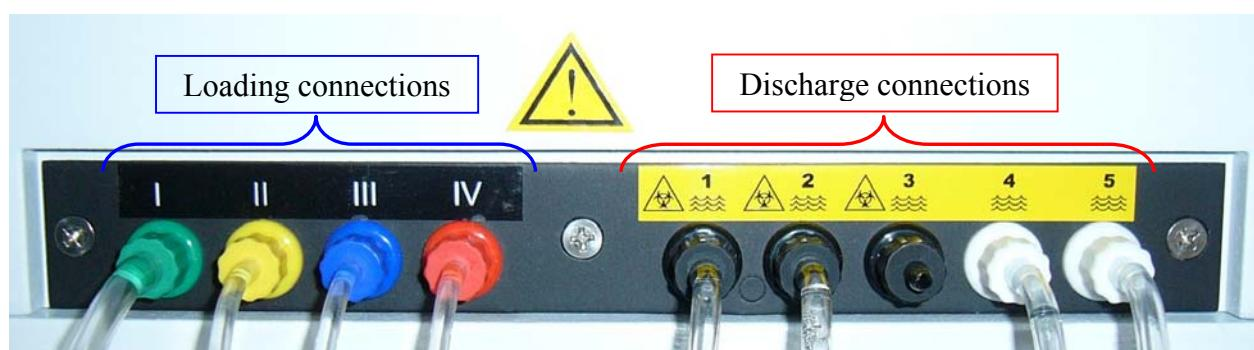

Fig. 6 – Loading and discharge connections
2. Connect the fittings of the four loading tubes on their respective fittings located on the back of the instrument (*Loading connections*). The *loading connections* on the back of the instrument are clearly labeled (**Fig.6**). *Note: the fittings of the connections dedicated to **loading** are the same color as their respective bottles and are also numbered accordingly.*
1. Connect the fittings of the discharge tubes on their respective fittings located on the back of the instrument (*Discharge connections*). The *discharge (Waste) connections* on the back of the instrument are clearly labeled. They are numbered (**Fig. 6**) and must be connected as specified following: